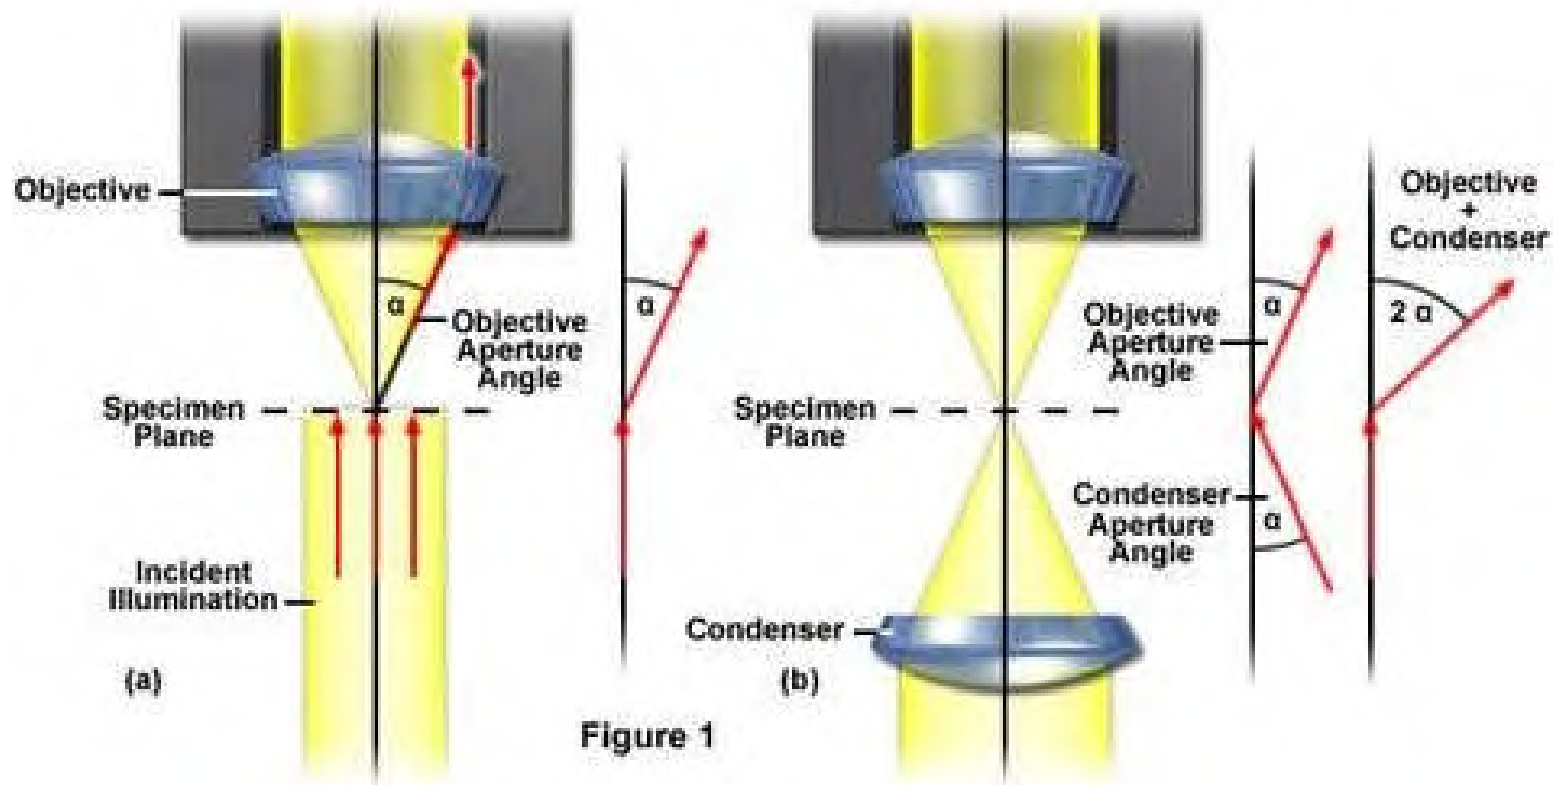

Figure 1
- In MICROBIOLOGY, the **numerical aperture** of a microscope objective is a measure of its ability to gather light and resolve fine details of the specimen at a fixed object distance. **light waves that are forming the Image pass through the specimen and enter the objective in an inverted cone as shown in fig 1**
- Light diffracted by the specimen is presented as an inverted cone of half-angle (α), which represents the limits of light that can enter the objective. In order to increase the effective aperture and resolving power of the microscope, a condenser (Figure 1(b)) is added to generate a ray cone on the illumination side of the specimen. This enables the objective to gather light rays that are the result of larger diffraction angles, increasing the resolution of the microscope system.